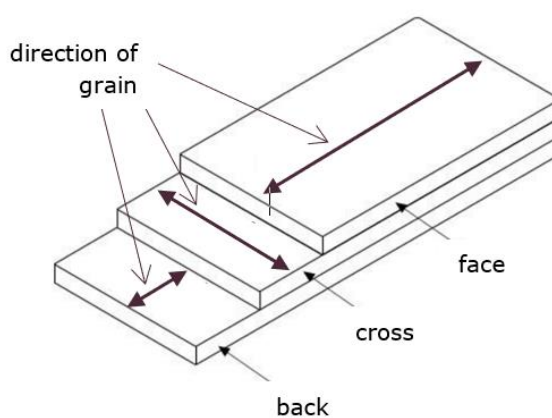

Figure 4
15. Figure 4 below illustrates a particular wood.